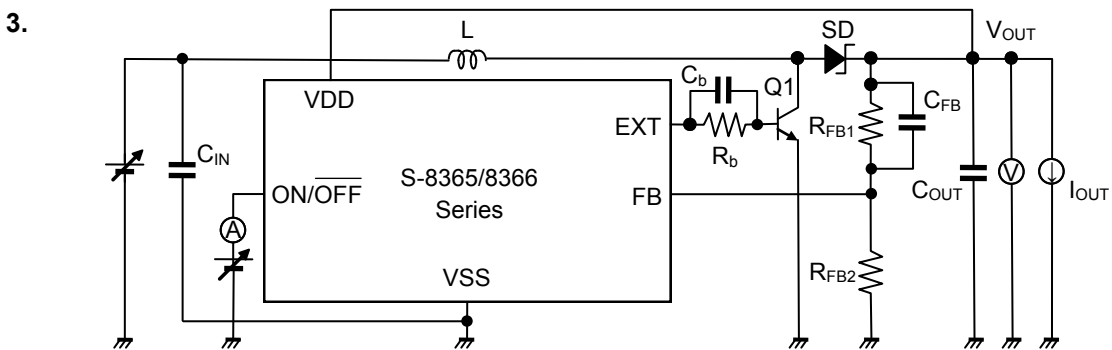

Figure 10
- \*2. This is the guaranteed value measured with external parts shown in “Table 10 External Parts List” and with test circuits shown in Figure 10. The operating start voltage varies largely depending on diode’s forward voltage. Evaluate sufficiently with actual device.
\*2. This is the guaranteed value measured with external parts shown in “Table 10 External Parts List” and with test circuits shown in Figure 10. The operating start voltage varies largely depending on diode’s forward voltage. Evaluate sufficiently with actual device.